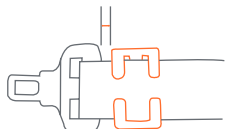

Fig. 43-3
- Secure the shoulder belt to the lap belt by installing the locking clip 1/2 inch from the buckle as shown in Fig. 43-3.